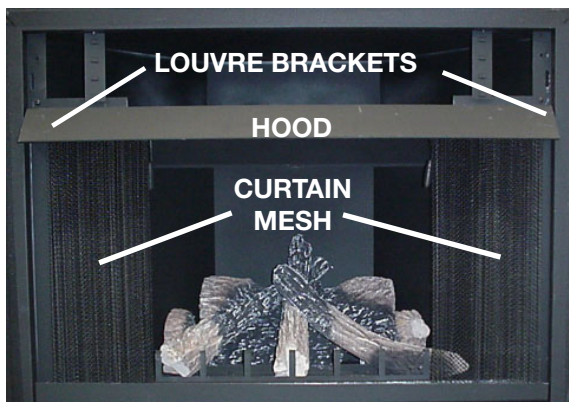

Fig. 3
- Secure the hood using the screws removed in step 1. Ensure that the louvre brackets are positioned in front of the hood (**Fig. 3**).